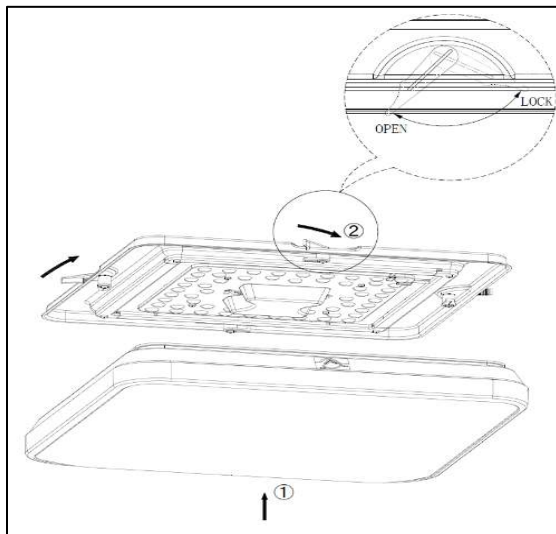

Figure 11
7. Secure the 2 screws with Phillips screwdriver (See Figure 11).